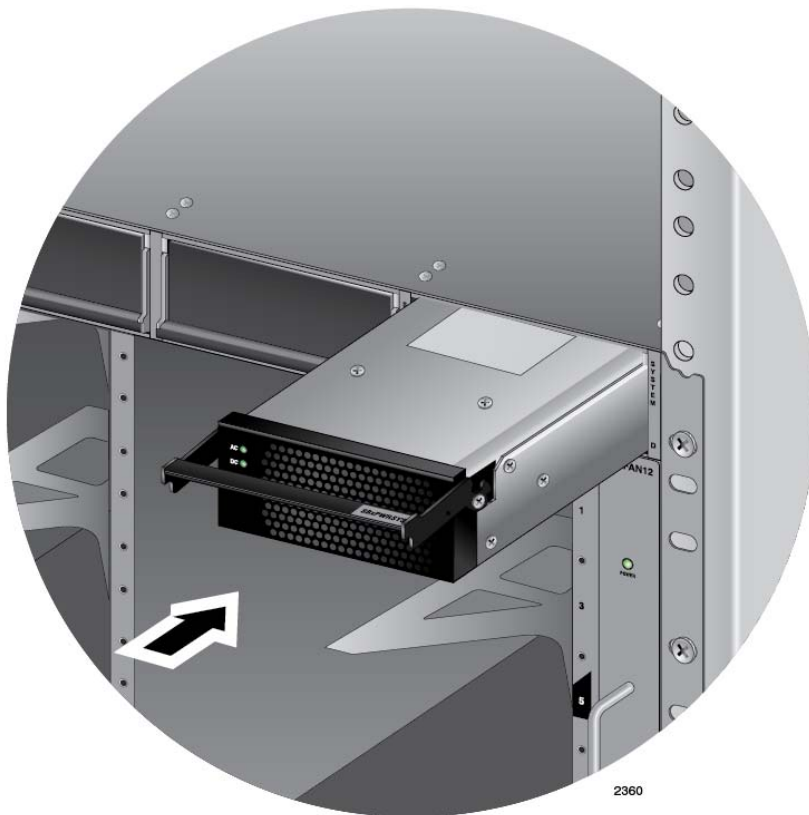

Figure 51. Inserting the AT-SBxPWRSYS1 or AT-SBxPWRSYS2 AC Power Supply
5. Align and insert the power supply into the power supply slot. Figure 51 shows the power supply being installed in slot D.